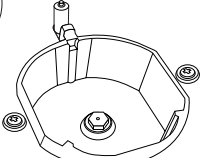

Figure 14
2. Please remove nozzle (Figure 14) from burner with special nozzle driver and install new nozzle. (Figure 15)